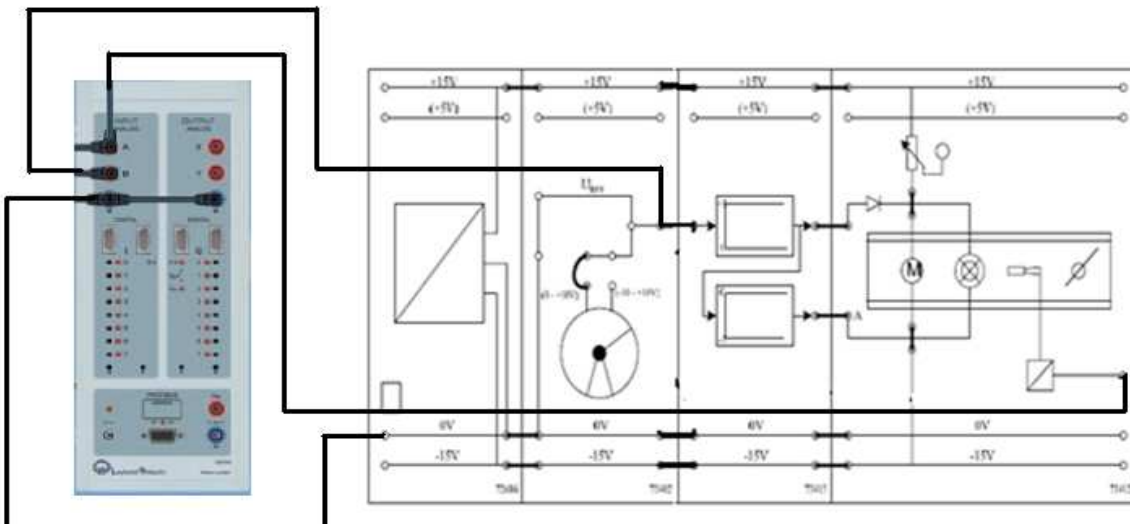

Figure 3
- 1- Connect the open loop Temperature control experiment as shown in the figure 3.